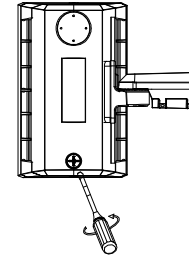

Figure 17
STEP 1: Open the metal plug counter clockwise with a screwdriver, then slide the switch up and down to adjust the power controller or CCT controller in your demand (FIGURE 17)